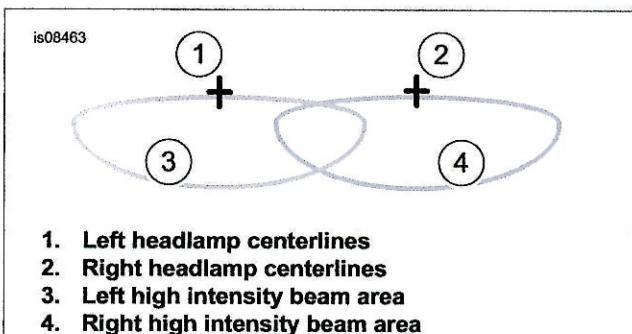

Figure 5. Alignment of Twin LED Headlamp
2. See Figure 5. With vehicle laden and upright, point the front wheel straight forward at wall.